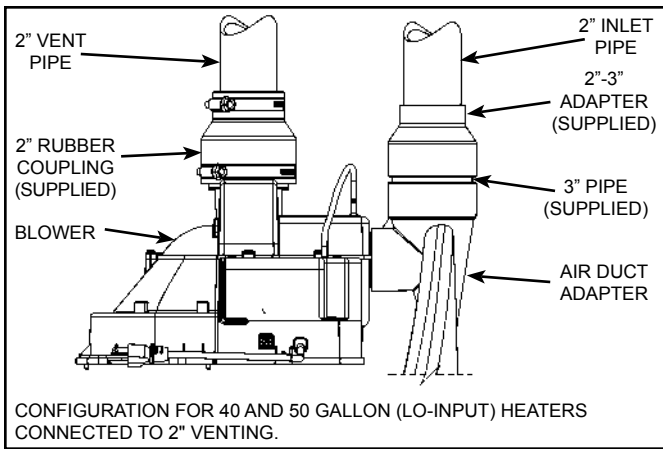
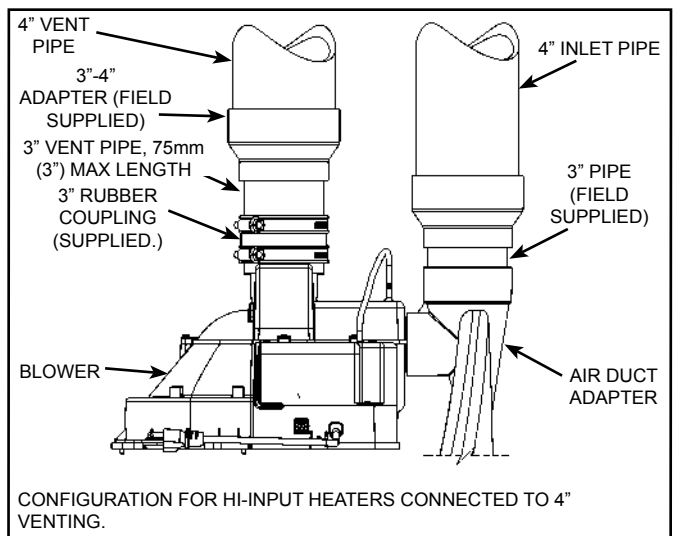

Figure 38.
Figure 42.
4. Make sure that the plastic tubing is still attached from the air pressure switch to the port on the blower motor housing. Make sure the plastic tubing is not folded anywhere between the pressure switch and the blower motor housing (see Figure 38 thru Figure 42).
Important: These connections must be properly seated and tightened to prevent the leakage of flue gases into the area. See Figure 38 thru Figure 42.